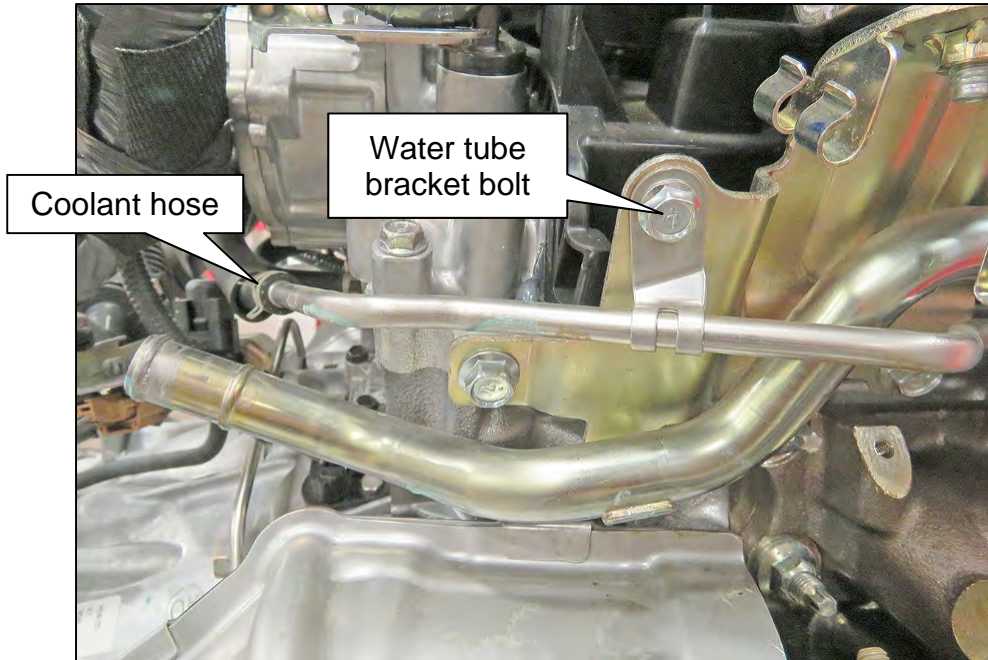

Figure 50
72. Release the spring clamp and disconnect the associated coolant hose shown in Figure 50.
73. Remove the water tube bracket bolt (Figure 50).